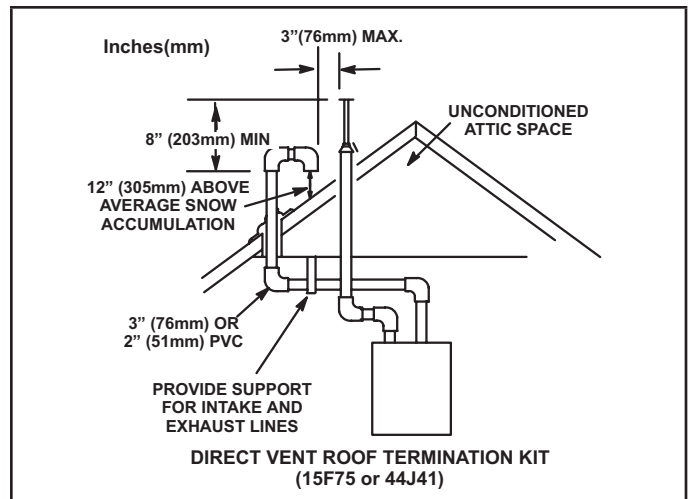

FIGURE 36
Intake and exhaust pipes may be routed either horizontally through an outside wall or vertically through the roof. In attic or closet installations, vertical termination through the roof is preferred. FIGURE 36 through FIGURE 43 show typical terminations.
- 3 - On roof terminations, the intake piping should terminate straight down using two 90° elbows (See FIGURE 36).